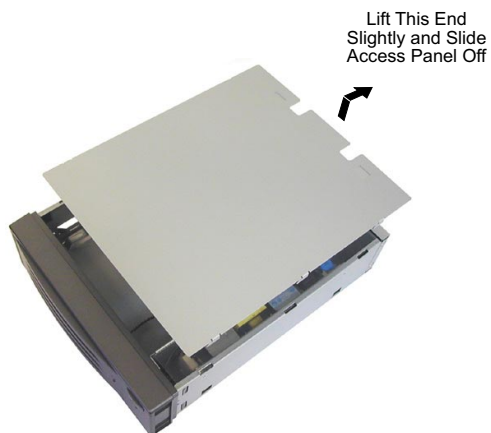

Figure 5: Removing the Access Panel
3. Carefully lift up the rear end of the access panel and slide off chassis (Figure 5).